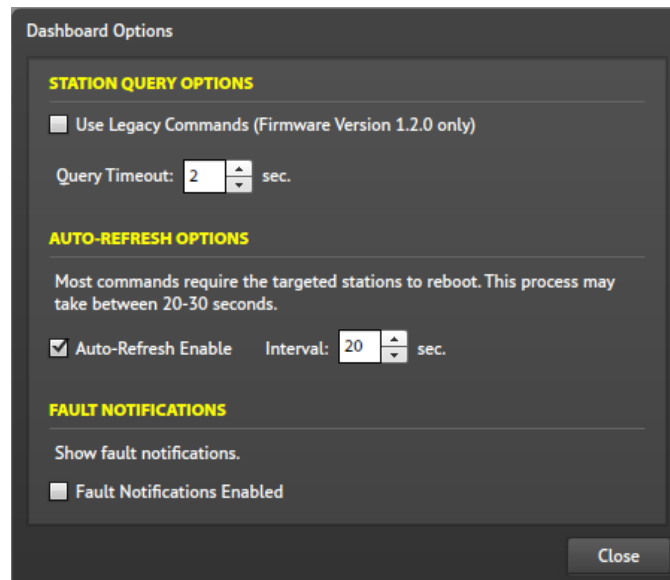

Figure 7. Dashboard Options Dialog Box
- **Dashboard Options**—opens the DASHBOARD OPTIONS dialog box (see Figure 7).